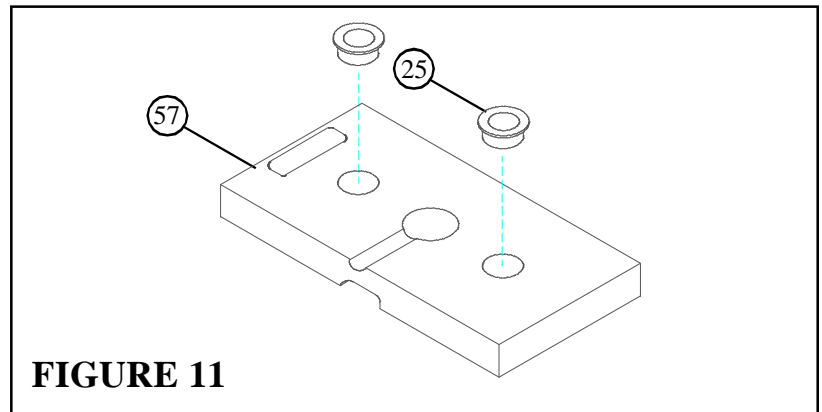

FIGURE 11
- Snap two WEIGHT PLATE BUSHINGS (25) into the top of all twenty WEIGHT PLATES (57) as shown in FIGURE 11.